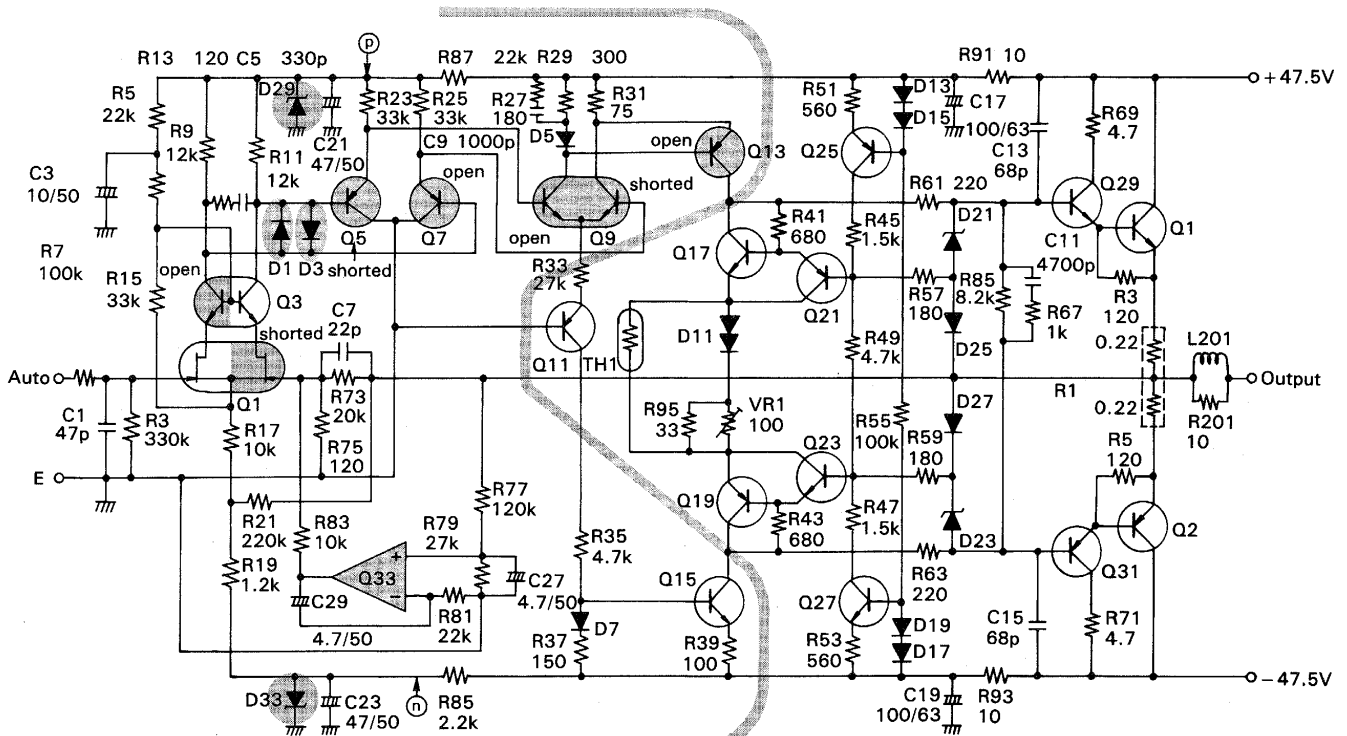

Fig. 92 Suspected components in case DC offset voltage is negative
Fig. 92 shows the suspected components when DC offset voltage is negative. Basic troubleshooting is the same as (1). First, check if D1, D3 and Q33 are faulty. If they are all right, check the suspected components shown in Fig. 92.
- (3) No sound although the voltage on the center line is almost 0V and protection relay turns on.